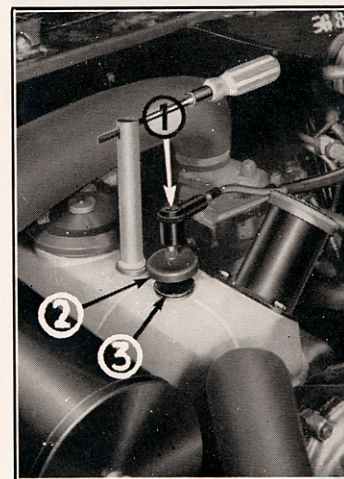

Figure 19
Replacement of a spark plug (fig. 19).
- Disconnect the spark plug feed wire end-piece 1 (fig. 19).
Unscrew the plug levering it up with a screw-driver (fig. 19). The metal and plastic gasket must remain on the plug barrel.